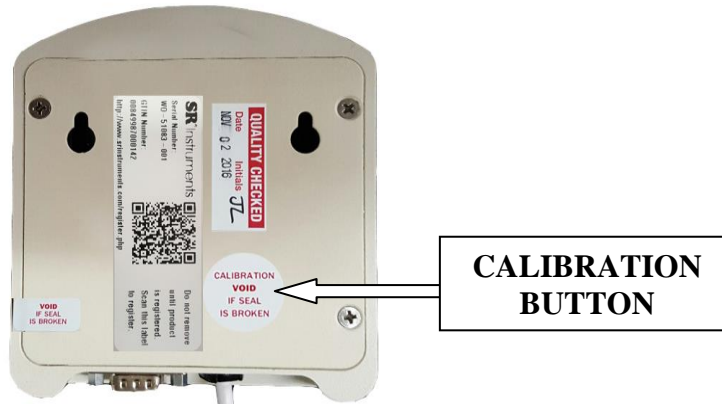
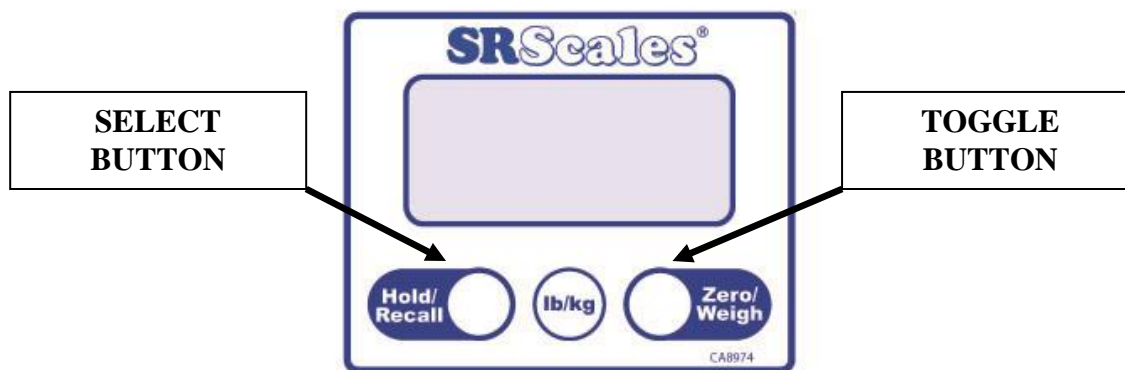

Figure 2: Calibration Button
Figure 3: Select and Toggle Button
To access all settings below, break the Calibration Seal. Press the calibration button (Figure 2) using the pointed-end of a pen or similar item. CAL mode is now active.
Refer to Figure 3. The Right Button allows you to toggle through the menus without saving any parameters. The Left Button permits a menu item to be selected or a parameter saved.
To enter the CAL mode, press the calibration button (Figure 2) using the pointed-end of a pen or similar item. Toggle through the menu with Right Button (Figure 3). Select or Save data with the Left Button (Figure 3).
- f) Press the calibration button (Figure 2) using the pointed-end of a pen or similar item to exit CAL mode.